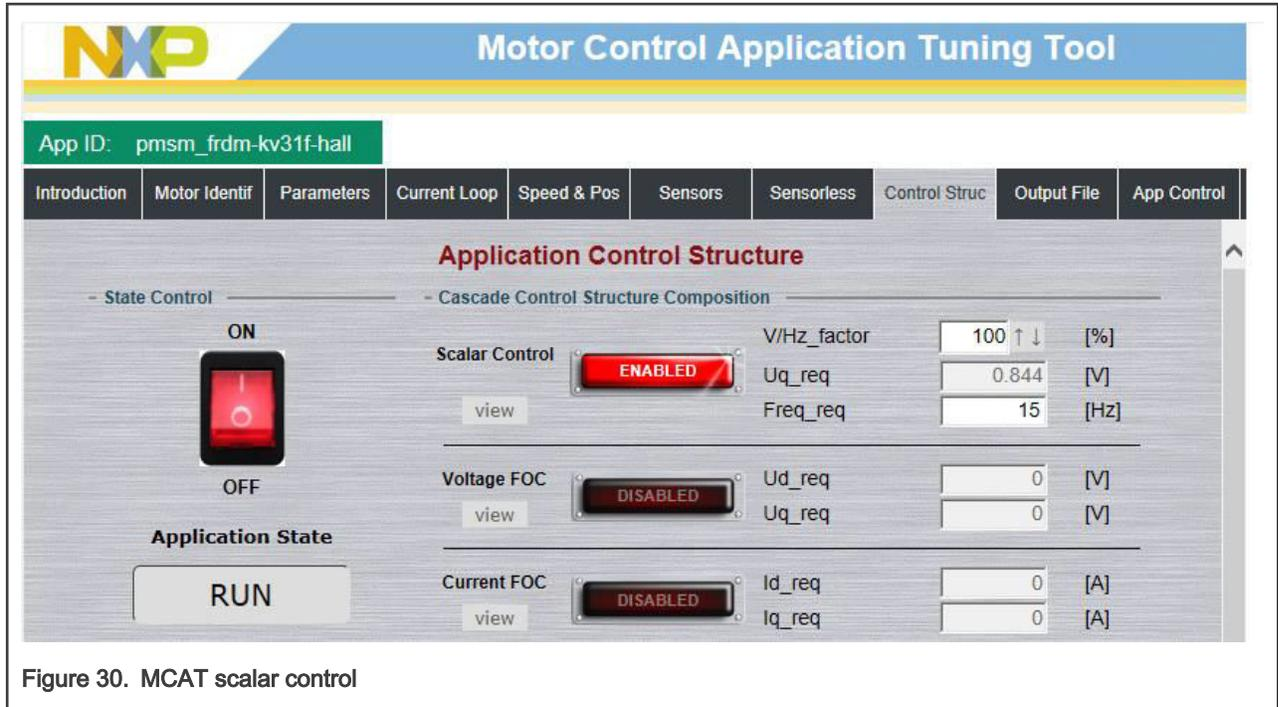

Figure 30. MCAT scalar control
3. Set the required frequency value in the “Freq_{req}” field; for example, 15 Hz in the “Scalar Control” section. The motor starts running (Figure 30).